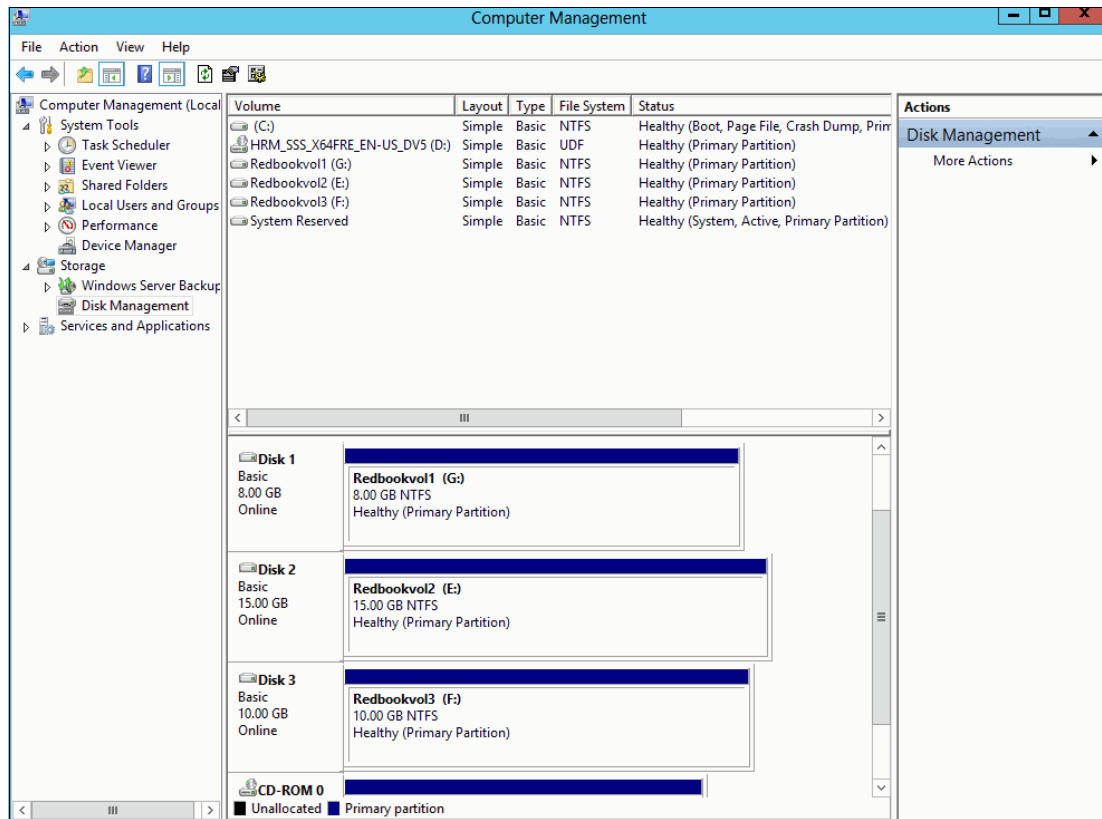

Figure 6-68 Bringing volumes online: Windows 2012
2. As can be seen in this example, three volumes were found of the same size as before the migration took place. If we put these volumes online, they are identical to those that we removed in Figure 6-24 on page 269. This is shown in Figure 6-68.